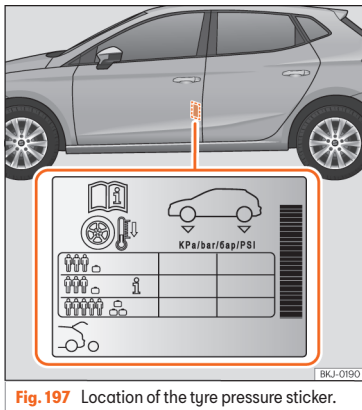

Fig. 197 Location of the tyre pressure sticker.
- Adjust tyre pressure to the load being carried by the vehicle »» **Fig. 197**.
The tyre inflation pressures are listed on a sticker on the rear of the front left door frame »» **Fig. 197**.
Depending on the vehicle, tyre pressure can be adjusted to medium load to improve driving comfort (tyre pressure **i**) »» **Fig. 197**. When driving with comfort tyre pressure fuel consumption may increase slightly.
The tyre pressure must be adjusted according to the load the vehicle is carrying. If the vehicle is going to carry the maximum load, the tyre pressure should be increased to the maximum value indicated on the sticker »» **Fig. 197**.
pressure of 4.2 bar as indicated on the tyre pressure label »» **Fig. 197**.
- The driver is responsible for ensuring that all of the vehicle tyres are correctly inflated to the right pressure. The recommended tyre pressure is indicated on the label »» Fig. 197.
- When the tyres are cold, tyre pressure should be that indicated on the label »» Fig. 197.